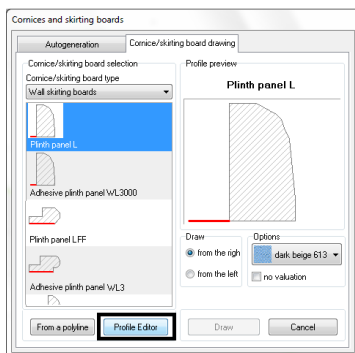

Fig. 238 – in the Profile Editor
- select the **Cornice/skirting board drawing** tab and click the **Profile editor** button (Fig. 238);